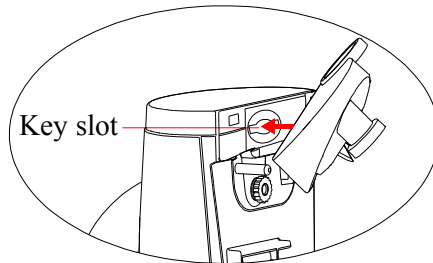
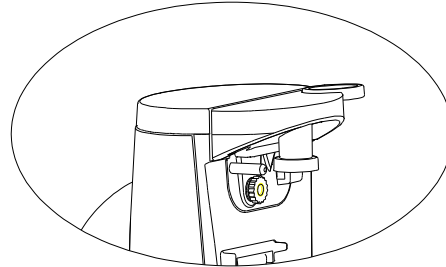

Fig. 1
Fig. 2
1. Attach the blade bracket to the can opener. Make the key tabs align with the key slots, push it frontward to fix it (see Fig. 1), then release the blade bracket (see Fig. 2).